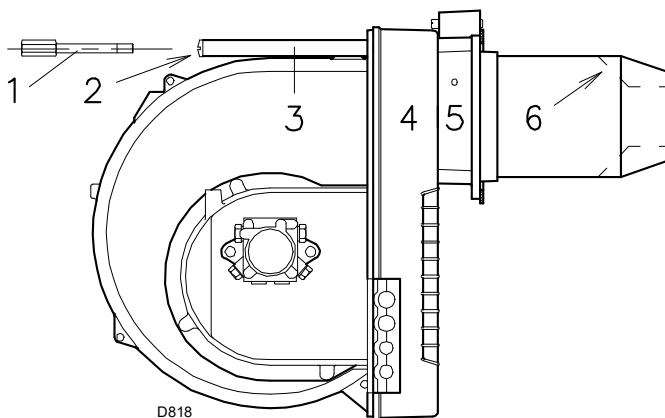

Fig. 13
- Finally remount the burner 4)(Fig. 13) to the slide bars 3) and slide it up to the flange 5), keeping it slightly raised to prevent the flameholder unit from pressing against the slide bars 6) of the blast tube.
- Tighten the screws 2)(Fig. 13) on the slide bars 3) and screw 1) that attaches the burner to the flange.